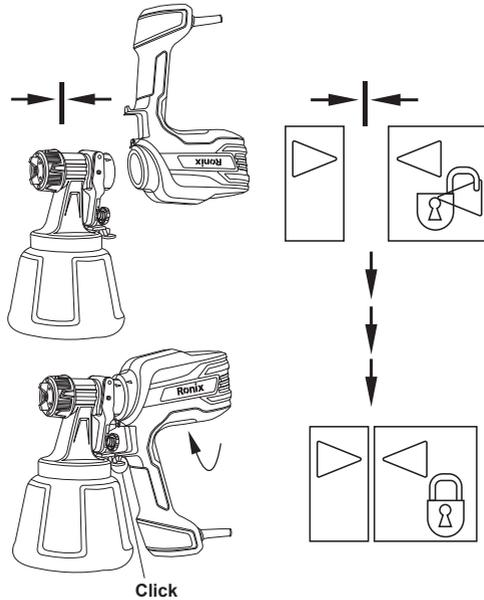

Fig. 3
- Connect the front part with the rear part of the gun (Fig. 3).
- 2- Divide the spray gun. Press the hook (Fig. 3 b “click”) slightly downwards. Turn the gun front part and gun rear part against each other and take them apart.
- 5- Assemble the gun again (Fig. 3).